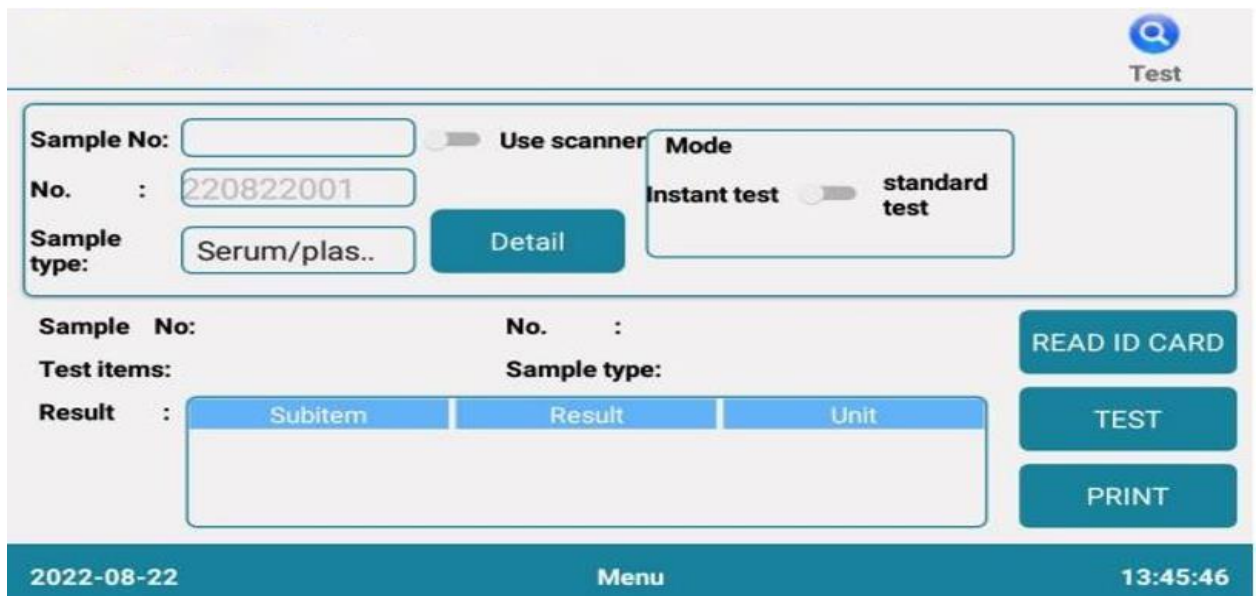

Fig.6
10. After testing each reagent card, the user can select the [Print] function in Figure 6 to print the test report.